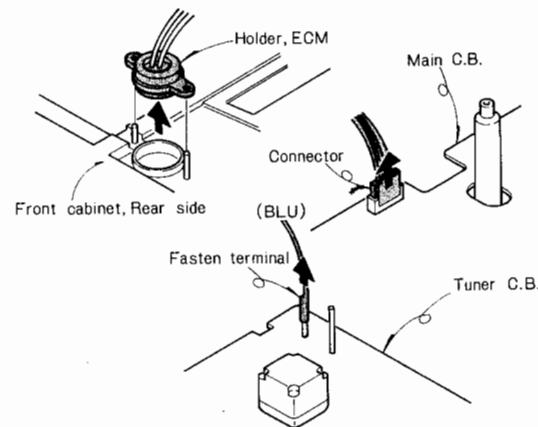

Fig. 2
- 2) Detach the ECM holder, and disconnect the connector and fasten-terminal (Blue). (See Figure 2)